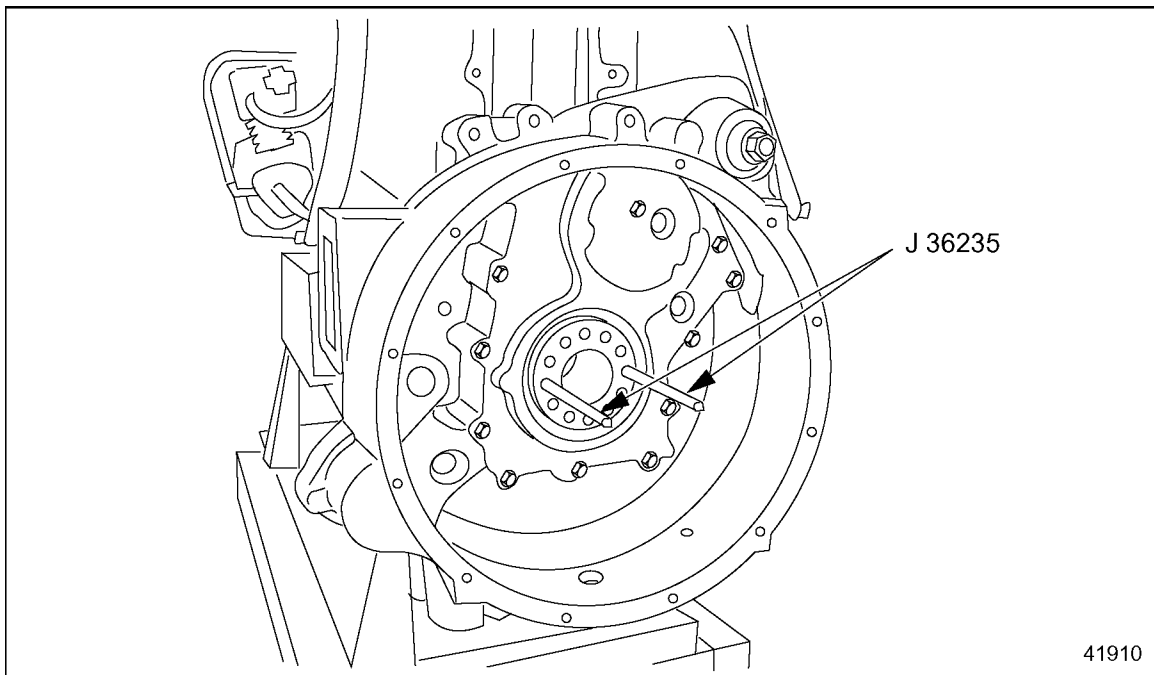

Figure 9-12 Flywheel Guide Studs
5. Insert two flywheel guide studs, J 36235 into the crankshaft. See Figure 9-12.